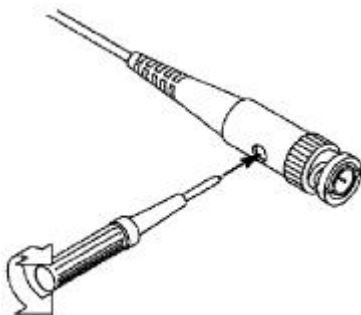

Figure 3-7 Adjust Probe
- 2.Check the displayed waveforms and regulate the probe till a correct compensation is achieved (see *Figure 3-6* and *Figure 3-7*).